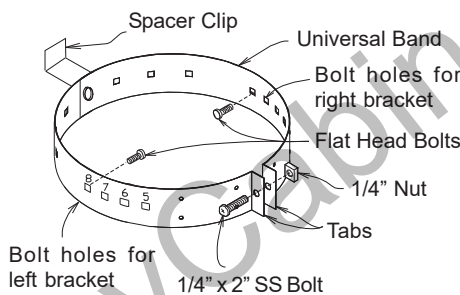

FIGURE 45a
3. Form the Band into a circle and loosely connect tabs using the 1/4" x 2" nut and bolt as per Figure 45a.